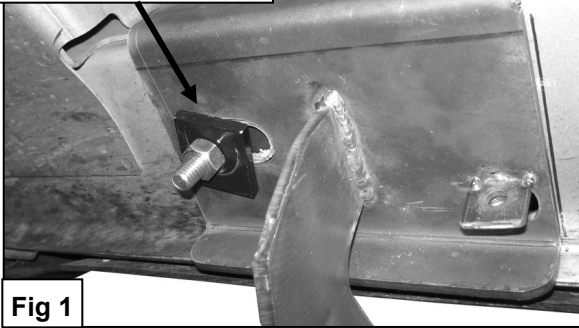

Fig 1
3. Insert (1) M12 Bolt Plate into the slotted factory hole (Figure 1). NOTE: Do not center the Bolt Plate in the factory hole, the shorter end of Bolt Plate should be pushed to one side of the factory hole in order to fully engage.
4. Position passenger side front Mounting Bracket up to the vehicle and over already inserted Bolt Plate. NOTE: The hole pattern on the Mounting Bracket matches the hole pattern on the vehicle. Partially hang Mounting Bracket to Bolt plate using the included (1) M12 Hex Nut and (1) M12 Square Washer (Figure 1).